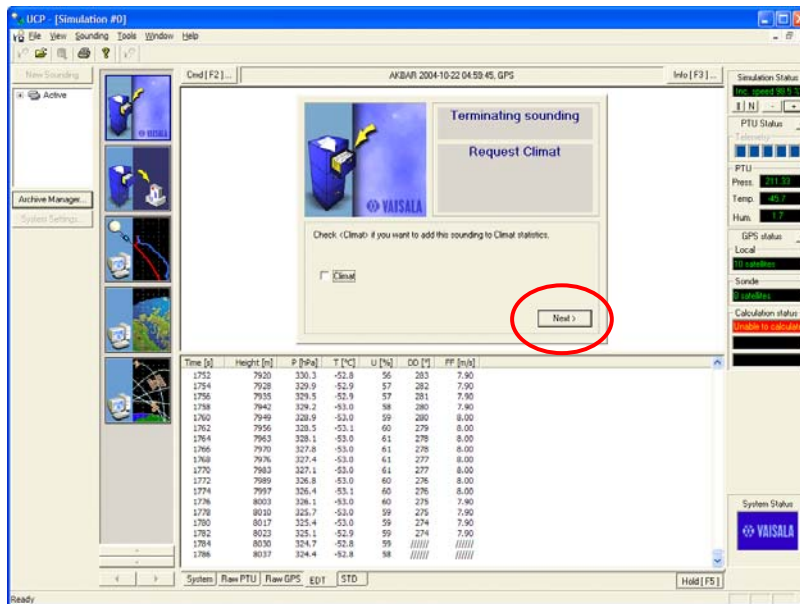

Figure 4
- Click "Next" if requested for Climat statistics (see Figure 4).